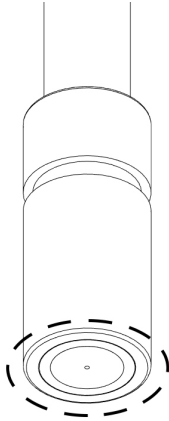

Figure 2: Do not touch the outlined area of the EMD microvalve.
- Handle the microvalve end with care. When inserting and removing the valve, do not touch the outlined area (Figure 2).
4. Grip the edge of the microvalve (Figure 6F) being careful not to contact the glass tip (Figure 2). Pull straight down to remove the microvalve from the EMD Printhead (Figure 6C, G). If necessary, twist to remove it.